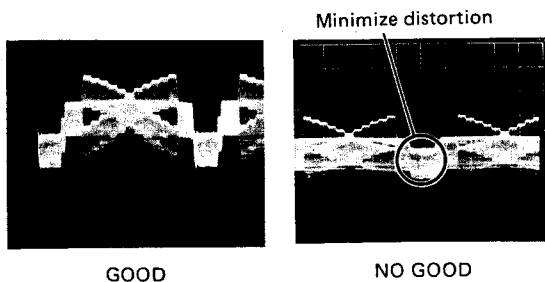

Fig. 5-6-11
- o Turn back VR12 (1H CCD BIAS) slowly and stop it at the point where the distortion of the H.BL signal becomes minimum. (Fig. 5-6-11)